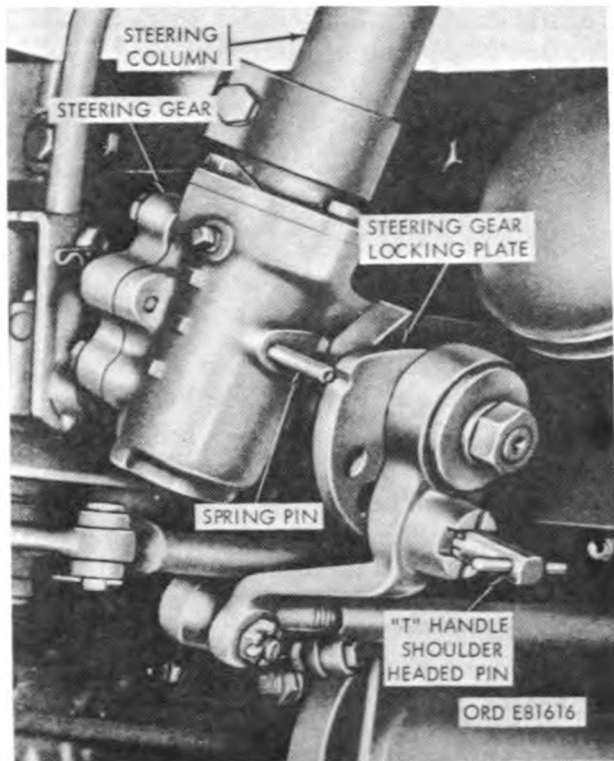

Figure 2-24. Location of steering gear locking plate and "T" handle shoulder headed pin.
Step No. 2. "T" Handle Shoulder Headed Pin (Figure 2-24). Pull out "T" handle shoulder headed pin while pulling steering column to intermediate position as shown in figure 2-4. Release shoulder headed pin and move steering column forward or backward slightly to allow
- (2) Pull out and disengage "T" handle shoulder headed pin (fig. 2-24) which locks position of steering gear.
- (3) Install tow bar in towing position (par. 2-15).